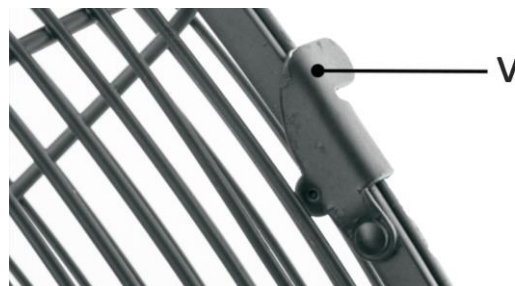

fig.16
2. Attach the front grille to the rear grille and then close the guard clips (v). (fig.16)